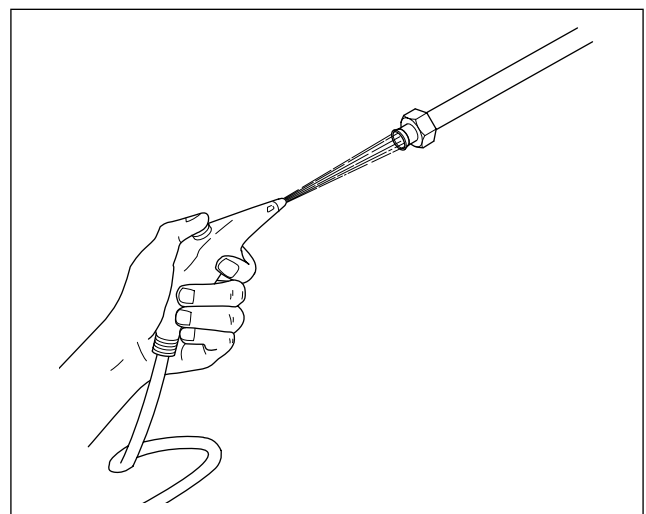

Figure 13
2. After loosening the contaminants by brushing from both ends of the tubing, blow out the loose debris with a compressed air gun using clean, filtered air (see Figure 13).